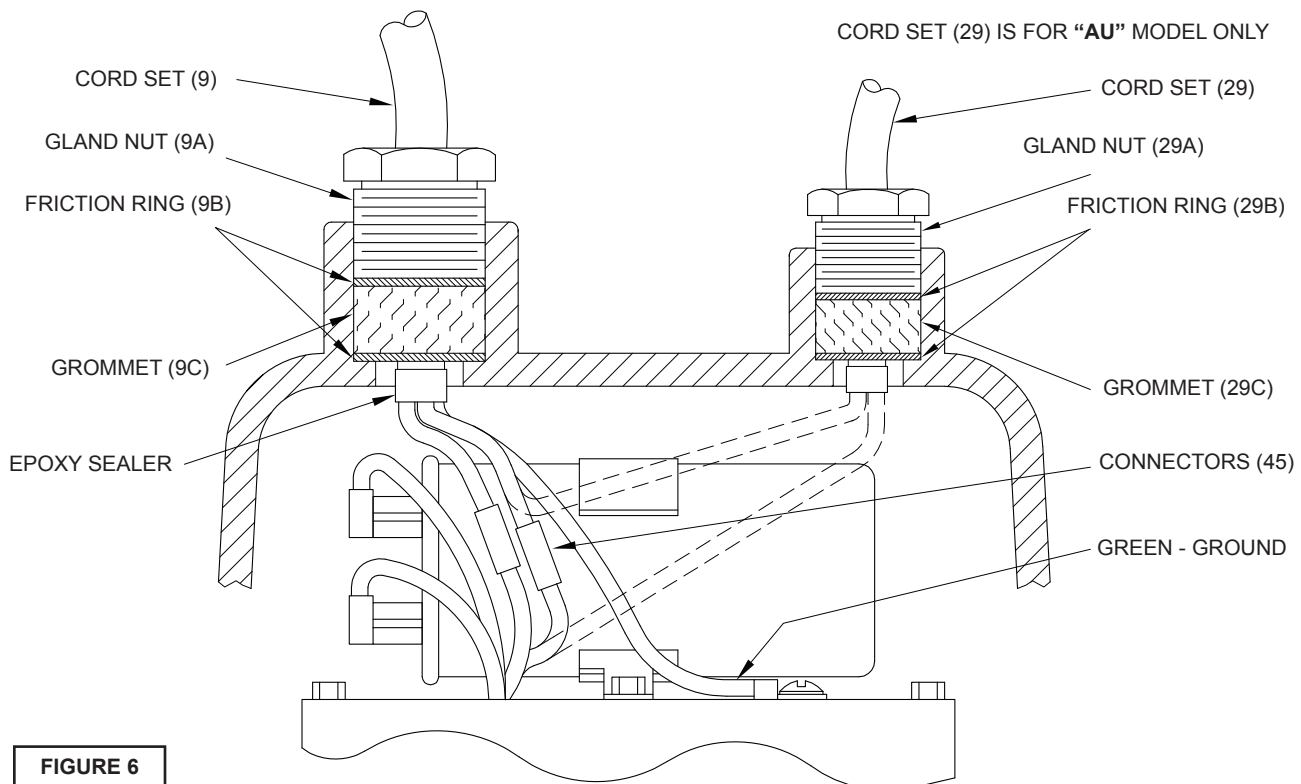
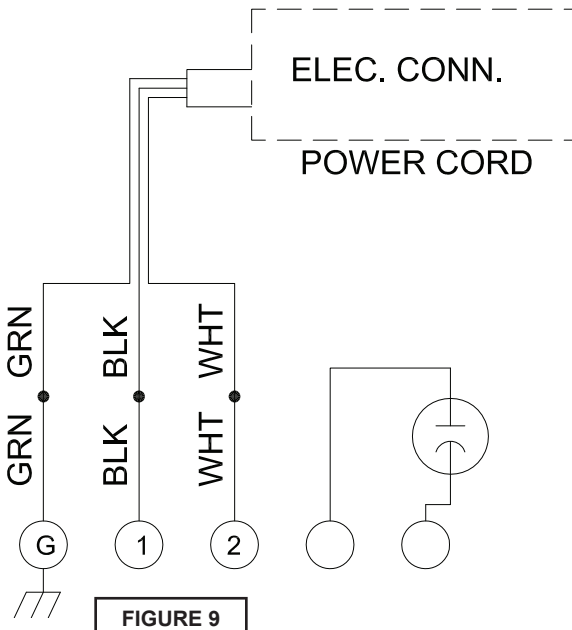

FIGURE 6
FIGURE 9
BP-HT & SE-HT Series, Motor - To examine or replace the motor (1) or bearing (4), remove body and impeller as per section F-2.1. Drain oil from motor housing as per section F-1.2. Remove socket head screws (15) and loosen gland nut (9a) and push cord through while lifting motor housing (14) off of seal plate (2). Disconnect motor wires from cord set (9). Pull cord through motor housing along with two friction rings and one grommet. (See Figure 6). Remove o-ring (13) and inspect for breaks. Loosen motor screws and pull motor (1) straight up and off seal plate (2). Inspect all parts for signs of wear and check motor resistance values.
On "HTAU" series pumps gland nut (29a), must also be loosened from motor housing (14). Push cord through while lifting motor housing (14) off of seal plate (2). Disconnect motor wires from cord set (29). Pull cord through motor housing along with friction rings (29b) and grommet (29c), see Figure 6.
On **BP-HT & SE-HT Series**, slide the gland nut, friction rings and grommet onto cord set (see Figure 6) and slip cord through motor housing (14). Connect motor wires per Figure 9. Place motor housing (14) squarely onto seal plate while pulling excess cord through hole. Tighten socket head screws (15) into motor housing. Slide the friction rings (9b), grommet (9c) and gland nut (9a) into motor housing and tighten gland nut to 17.5 ft. lbs. Refill with cooling oil as per paragraph F-1.3. On **"HTAU"** series pumps slide the gland nut, friction rings and grommet onto cord set (see Figure 6) and slip cord (29) through motor housing (14). Connect wires per Figure 10.